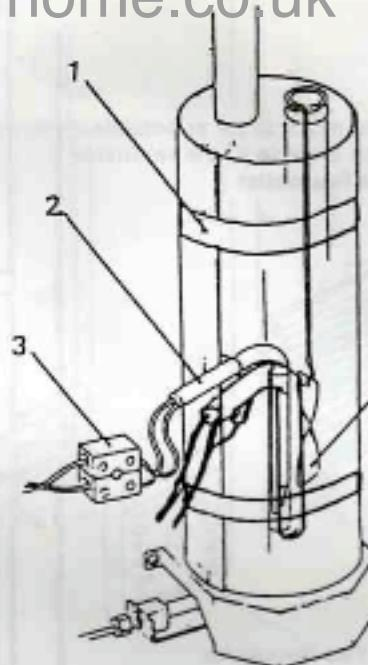

FIG. 10
The flue baffle (4, fig. 10) must be in position in the central tube of the boiler, suspended on its support wire so that the lower end of the baffle is 75mm (3") above the bottom of the central tube over the burner. The top end of the baffle support wire is bent into the shape of an "O," and rests horizontally on the top of the central tube. The baffle is correctly positioned during the manufacture and should not become displaced during normal use. If the flue baffle is missing or is incorrectly located, the cooling unit will not operate properly on gas. Any strapping tape used to retain the baffle support wire to the top of the boiler casing during transit should be removed before installation.
c) Wiring for 12V Operation (See figs. 10, 12a and 12b)
For operation on 12V, the boiler of the cooling unit is fitted with an 85 watt heating element (2, fig. 10) connected to a terminal block (3) attached to the back of the refrigerator. Before installing the refrigerator, the wiring for the 12V supply should be connected to the terminal block, leaving enough slack for subsequent insertion and withdrawal of the refrigerator for servicing purposes.